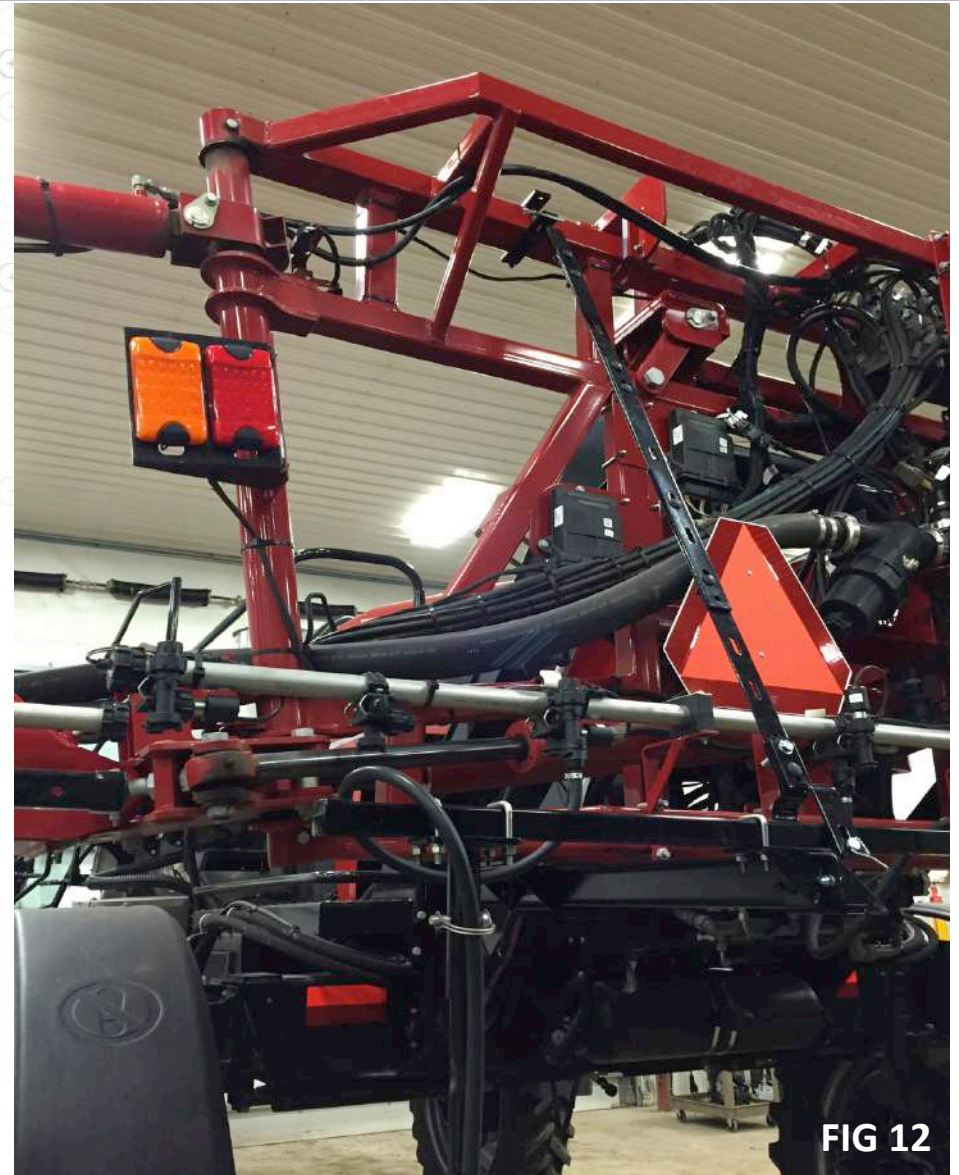

FIG 12
14. Assemble (2) 3-Section yokes to center sprayer boom to 360 Y-DROP boom, shown in FIG 12. Note: Length will need to be adjusted to fit distance between booms.